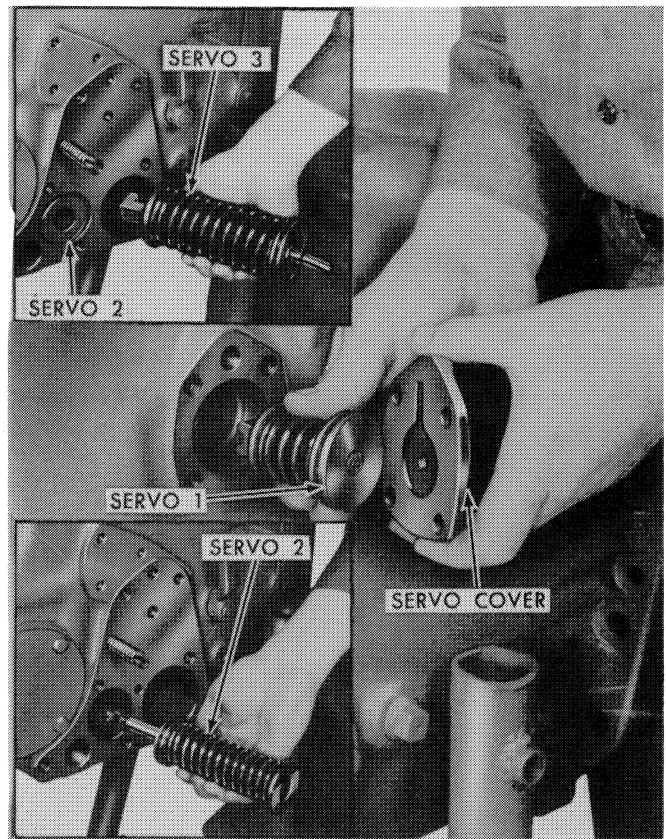

Figure 55
19. Remove the four servo 1 cover attaching bolts and remove the cover and servo from the right side of the transmission, as shown in Figure 55.
6. Assemble the bore and piston rod seal on the servo 2 rod and install the servo in the case with the notch forward, as shown in Figure 55.